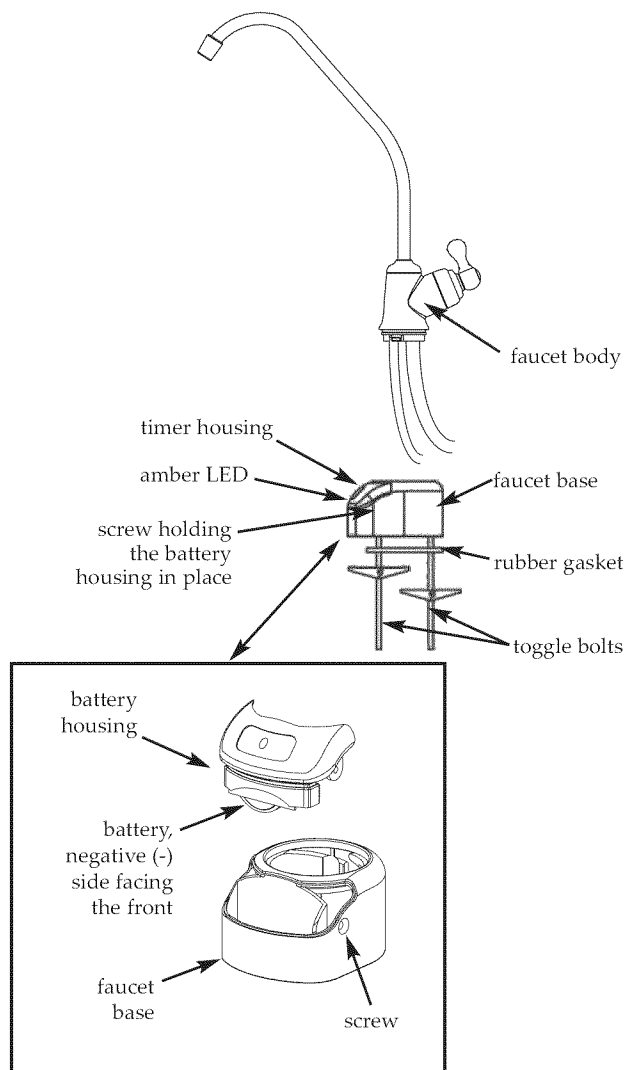

Figure 14
1. Locate and organize your RO faucet install parts. Refer to Figure 14.
Inside the faucet base is a battery operated 6 month timer. See Figure 14.
1. Loosen the screw on the right side of the faucet base. See Figure 14.
2. Press the battery housing upwards from the front faucet base until it releases from the faucet base. See Figure 14.
5. Re-install the timer housing and firmly tighten the mounting screw. See Figure 14.